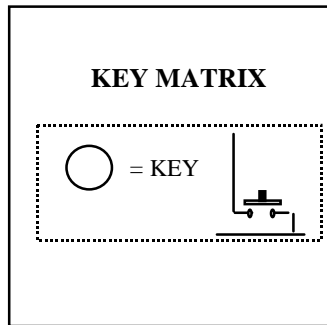

Figure B-1. Circuit Diagram
**Note:** Figure B-1, Circuit Description:
; program example ,See the Figure B-1 circuit.
The current consumption during the Pulse transmission depends on the external circuit and each Protocol. Normally , if you used Fig B-1 circuit., the operation current is 15mA